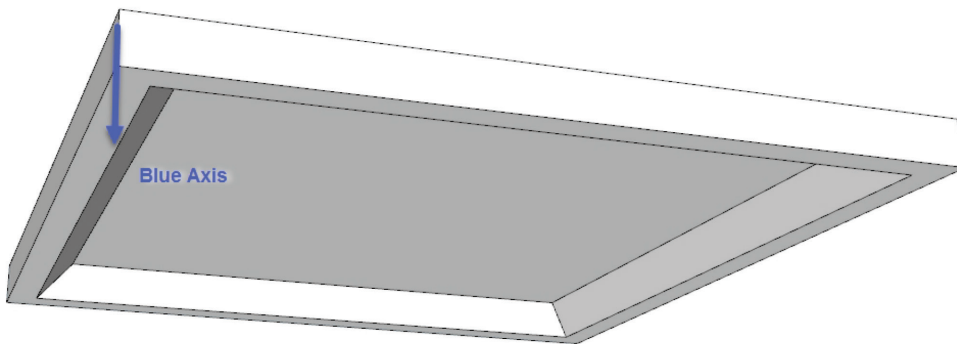

Figure 10.5 Step 4.
13. Press M for Move and choose one of the outside corner points of the bottom of the slab, move your cursor downward. You need to lock into the blue axis as you move downward, you can hit the down arrow on your keyboard to lock this in, but you *must* be moving along the blue axis. Once you are locked in, type 13½" in the Measurements Box and enter. That's it! You should now have a tapered thickened slab as shown in Figure 10.5.